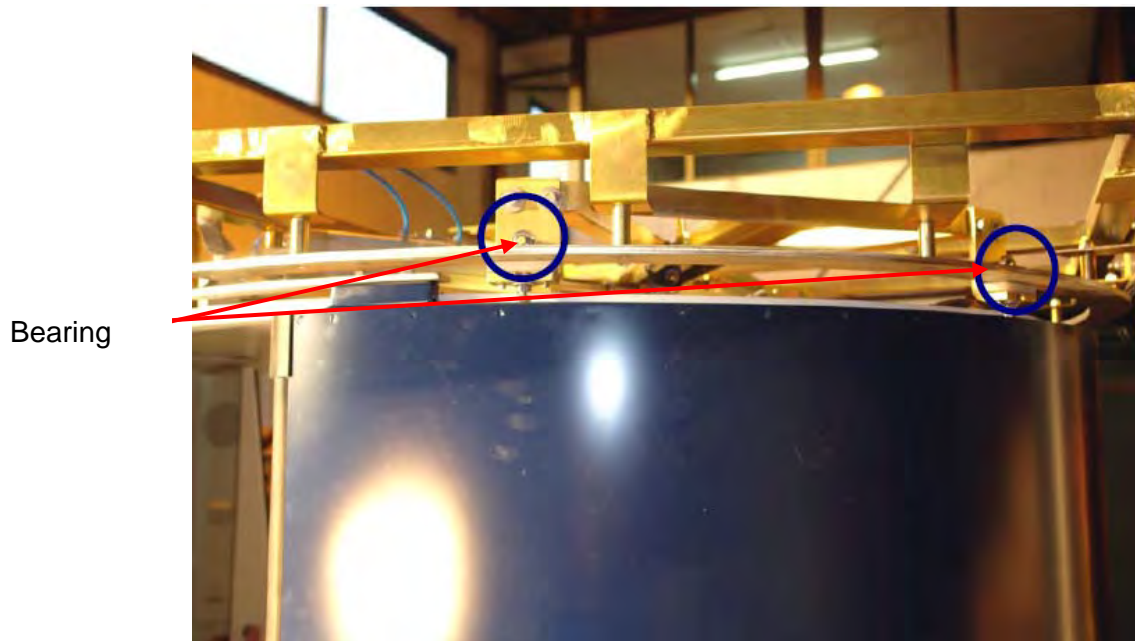

Figure 3: Door Arm Bearings
- 3.3 Remove the door arm bearing retaining fasteners and remove and discard the door arm bearings (see Figure 3).